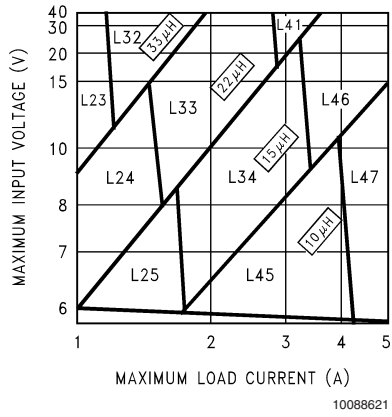
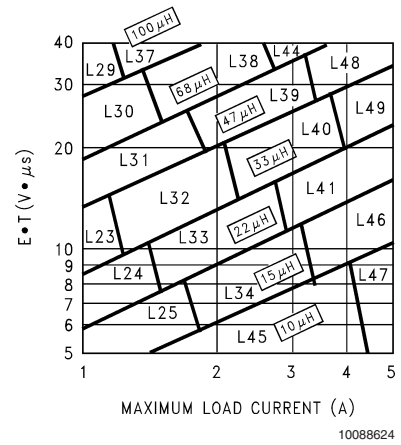

FIGURE 3. LM2678-3.3
FIGURE 6. LM2678-ADJ
**Step 3:** Determine the inductor required by using one of the four nomographs, *Figure 3* through *Figure 6*. Table 1 provides a specific manufacturer and part number for the inductor.
**Step 5:** Determine an input capacitor from Table 4 for fixed output voltage applications. Use Table 2 to find the specific capacitor type. For adjustable output circuits select a capacitor from Table 2 with a sufficient working voltage (WV) rating greater than  $V_{in\ max}$ , and an rms current rating greater than one-half the maximum load current (2 or more capacitors in parallel may be required).
**Step 3:** Use the nomograph for the 3.3V device, *Figure 3*. The intersection of the 16V horizontal line ( $V_{in\ max}$ ) and the 4A vertical line ( $I_{load\ max}$ ) indicates that L46, a 15 $\mu$ H inductor, is required.
**Step 3:** To use the nomograph for the adjustable device, *Figure 6*, requires a calculation of the inductor Volt $\cdot$ microsecond constant ( $E \cdot T$  expressed in  $V \cdot \mu s$ ) from the following formula:
Using *Figure 6*, the intersection of 27V•μS horizontally and the 3.5A vertical line ( $I_{\text{load max}}$ ) indicates that L48, a 47μH inductor, or L49, a 33μH inductor could be used. Either inductor will be suitable, but for this example selecting the larger inductance will result in lower ripple current.
**Important Note:** When using the adjustable device in low voltage applications (less than 3V output), if the nomograph, *Figure 6*, selects an inductance of 22μH or less, Table 6 does not provide an output capacitor solution. With these conditions the number of output capacitors required for stable operation becomes impractical. It is recommended to use either a 33μH or 47μH inductor and the output capacitors from Table 6.